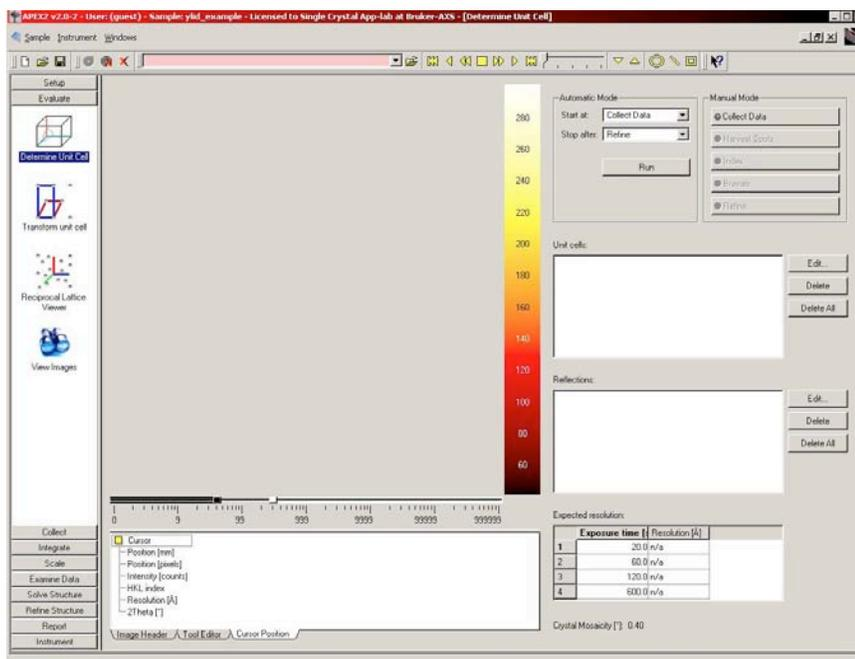

Figure 13
- 21) In the task menu bar, Click **Evaluate** and then **Determine Unit Cell**. A new module appears (Figure 13). Click **Run** for automatic mode.